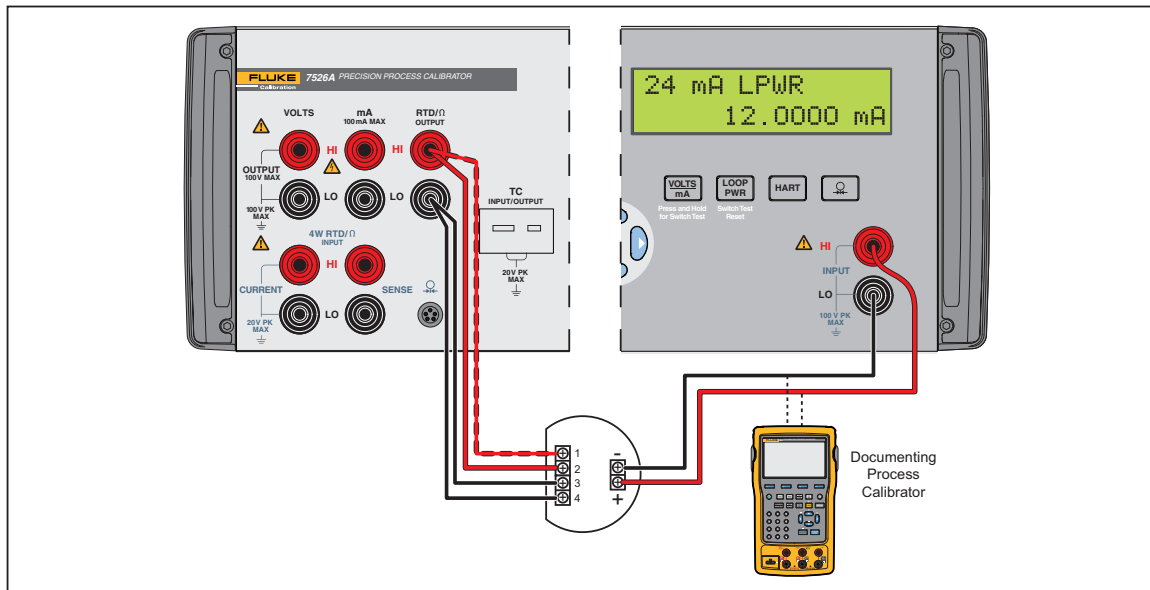

Figure 4-5. RTD Transmitter Application
6. Connect the transmitter as shown in Figure 4-5.